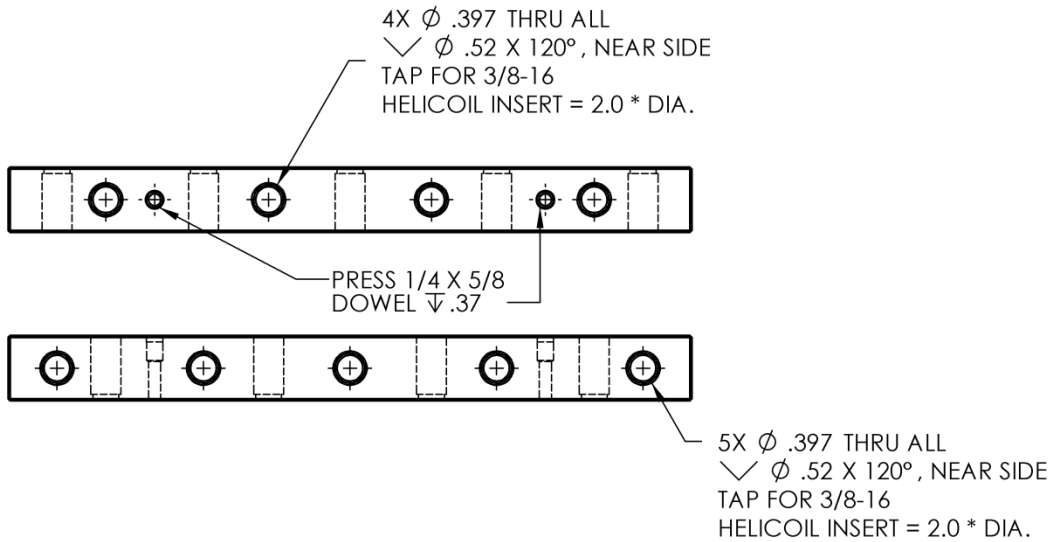

Figure 24
1. Apply Helicoils and dowel pins as shown Figure 24. Note: insert dowels on side opposite counter bores.